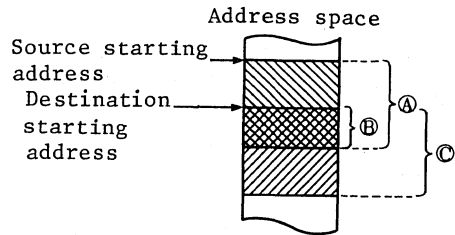

Fig. 2 Example of overlapping the source area with destination area
(2) User Notes
- (c) Holds entry arguments so that source area (Fig. 2 ①) and destination area (Fig. 2 ②) do not overlap. If they do, the source data in overlapping area (Fig. 2 ③) will be destroyed.